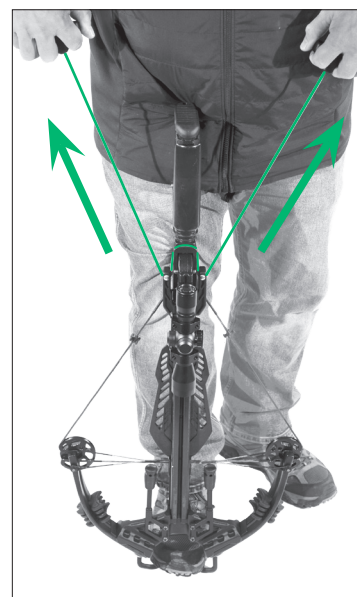

FIGURE 13
- 3e Pull both t-handles simultaneously, smoothly drawing the crossbow string back under the arrow retention spring and into the string opening of the trigger mechanism. (Tension will keep the cocking sled against the rail if done properly. (Fig. 13))